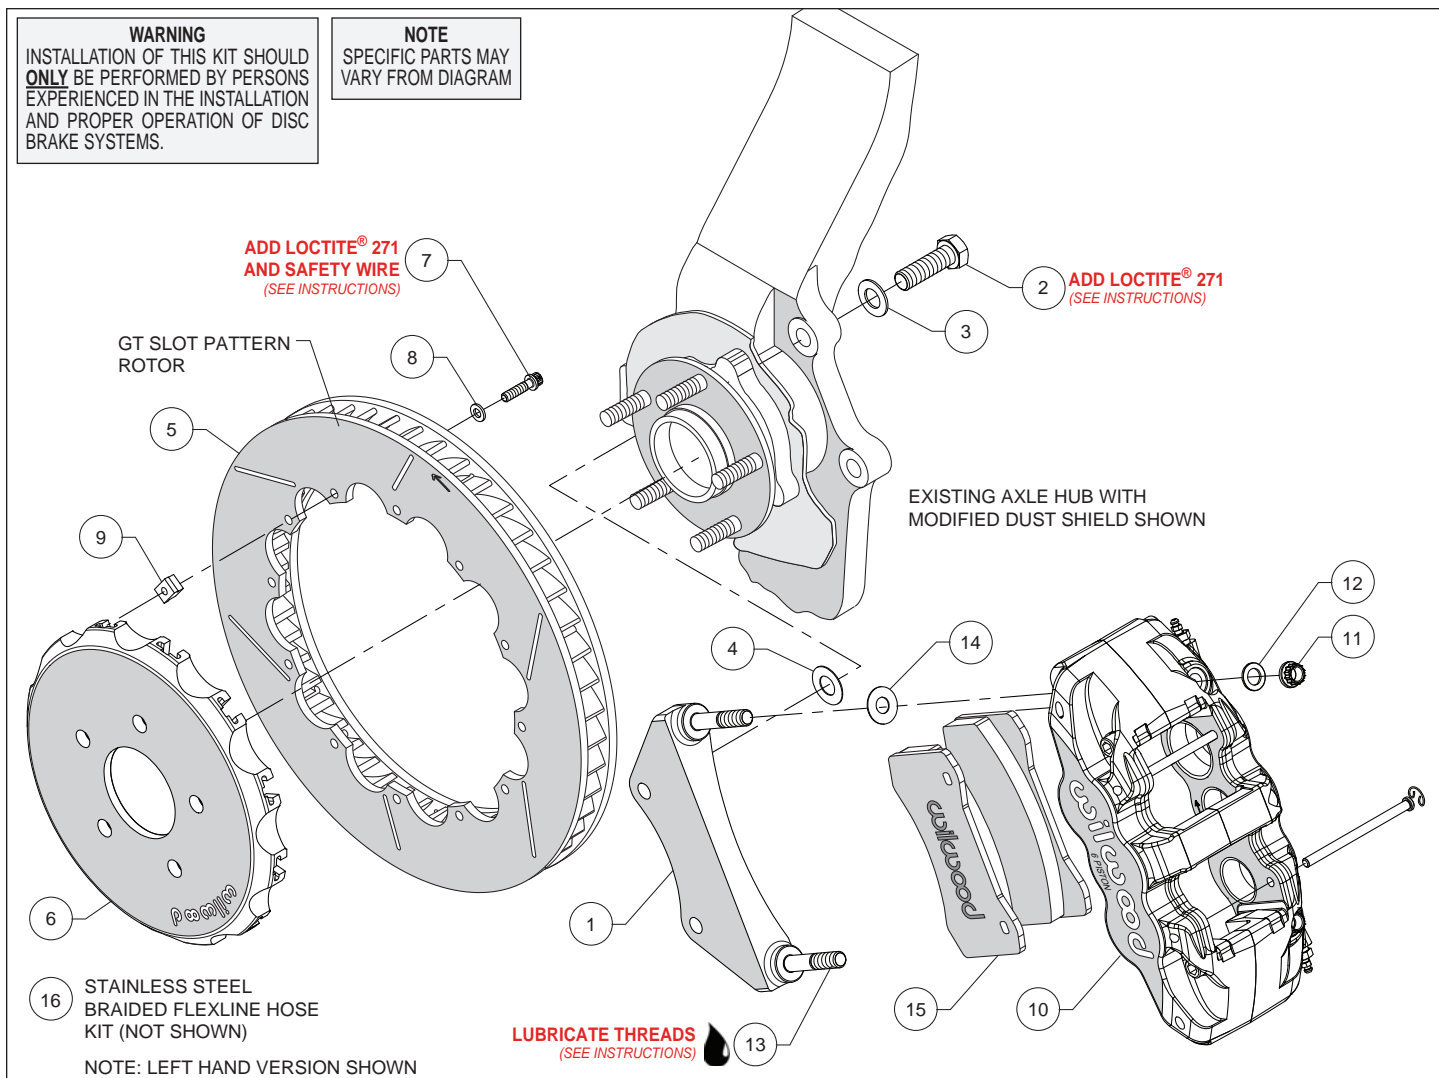
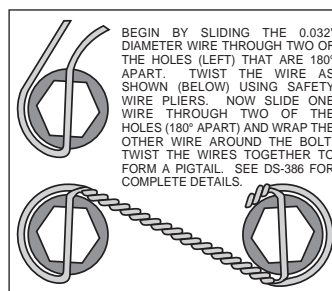

Figure 1. Typical Installation Configuration
Figure 3. Safety Wire Diagram
Assembly Instructions (numbers in parenthesis refer to the parts list and Figure 1 on the preceding pages):
- The caliper mount bracket (1) should initially be installed with clean, dry threads on the mounting bolts. Orient the bracket as shown in Figure 1 and Photo 2, and install using bolts (2) and washers (3). Initially place one .029 thick shim (4) on each bolt between the bracket and upright, Figure 1. Temporarily tighten the mounting bolts. **NOTE:** The bracket must fit squarely against the mounting points on the upright. Inspect for interference from casting irregularities, machining ridges, burrs, etc. Later, after the caliper alignment has been checked, the mount bolts will be secured using red *Loctite*[®] 271.
- Orient the rotor (5) and the hat (6) as shown in Figure 1 and Photo 3. Attach rotor to hat using bolts (7), washers (8), and t-nuts (9), Figure 1. Follow additional instructions included with the bolt kit. Using an alternating sequence, apply red *Loctite*[®] 271 to the threads, and torque to 120 **in-lbs**. Safety wire bolts using standard 0.032 inch diameter stainless steel safety wire as shown in Figure 3. Please refer to Wilwood's data sheet DS-386 (available at www.wilwood.com/Pdf/DataSheets/ds386.pdf) for complete safety wire installation instructions.
- NOTE:** This kit contains distinct right and left hand calipers that must be mounted in a specific direction, as described below. Lubricate the caliper mounting studs (13) with lightweight oil. Initially place one .030" thick shim (14) on each stud between the caliper and the bracket, as shown in Figure 1 and Photo 4. Mount the caliper (10) onto the bracket (1) using lock nuts (11) and washers (12), Figure 1. Ensure that the caliper is mounted so the largest pistons are at the rotor exit end of the caliper, in relation to the direction of rotor rotation. Temporarily tighten the lock nuts and view the rotor through the top opening of the caliper. The rotor should be centered in the caliper, Photo 5. If not, adjust by adding or subtracting shims (4) between the bracket and the upright. Always use the same amount of shims on each of the two mounting bolts. Once the caliper alignment is correct, remove the bracket mounting bolts (2) one at a time, apply red *Loctite*[®] 271 to the threads, and torque to 77 ft-lbs.
- Remove the two pad retaining pins from the caliper (10) by carefully popping out the pin retaining clips and sliding out the pins. Insert the brake pads (15) into the caliper from the bottom, Figure 1 and Photo 6. With the friction material facing the rotor, secure the brake pads in place with the pad retaining pins and clips, Photo 7. Reinstall the caliper (10) onto the caliper mounting bracket (1) and temporarily tighten the lock nuts (11). Check that the top of the brake pad is flush with the outside diameter of the rotor, Photo 8. If not, adjust by adding or subtracting shims (14) between the caliper and the bracket. After the caliper pad height is set, torque the caliper lock nuts (11) to 47 ft-lb.